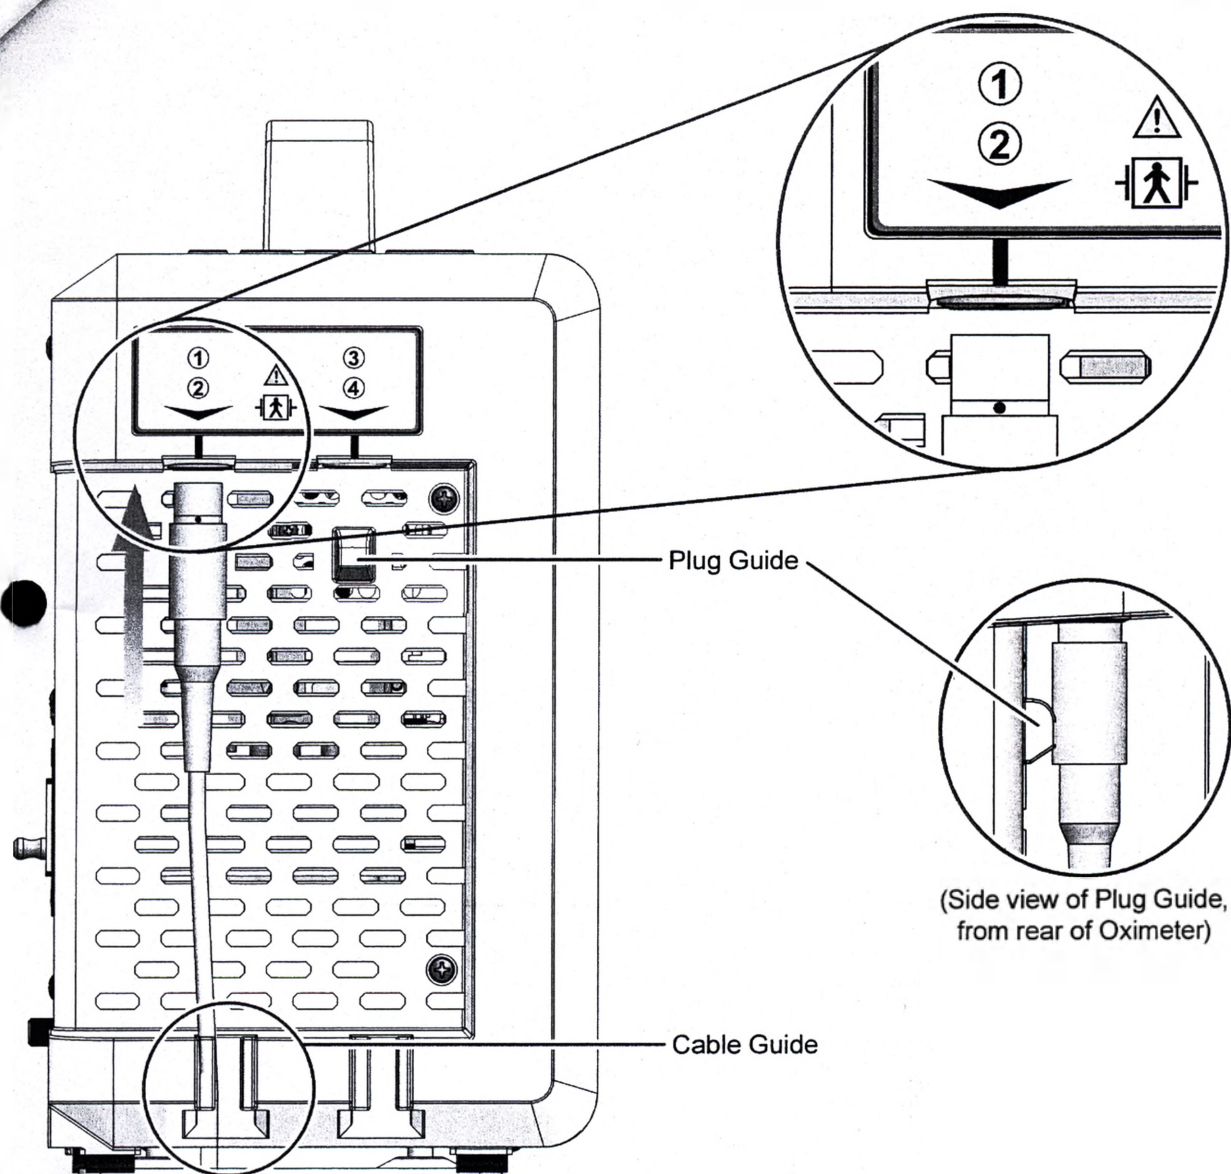

Figure 10: Attaching the Preamp Cable
1. Position the Preamp cable plug under the desired Oximeter Preamp port (Channels ①/② or ③/④) and rest it against the Plug Guide below the connector (see Figure 10 on page 14).
3. Gently push the Preamp cable plug straight up into the Oximeter Preamp port until it snaps into place (Figure 10 on page 14, green arrow).